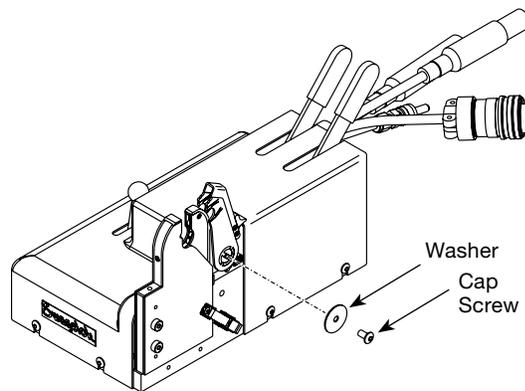

Figure 32 Removing the Cap Screw and Washer
3. Remove the cap screw and washer. See Figure 32.